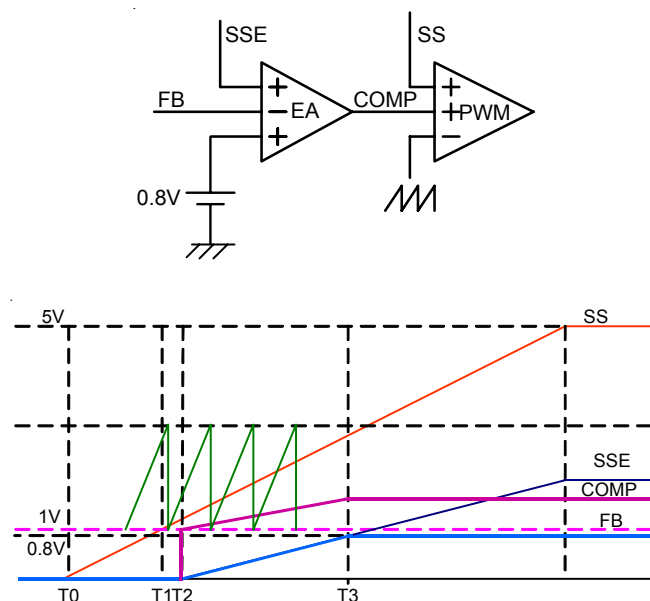

Figure 1. Timing diagram of softstart
The behavior of RT9232A Soft-Start can be simply described as shown as Figure.1 below; and the Soft-Start can be sliced to several time-frames with specific operation respectively.
The RT9232A initiates the softstart cycle as shown in Figure 1 when POR function is OK. An internal $10\mu A$ current source charges an external capacitor on SS pin (C_{SS}) to $5V$. The softstart function produces an SSE signal that is equal to $(SS-1.2V)/2$. Error Amplifier (EA) and PWM comparator are triple-input devices. The non-inverting input